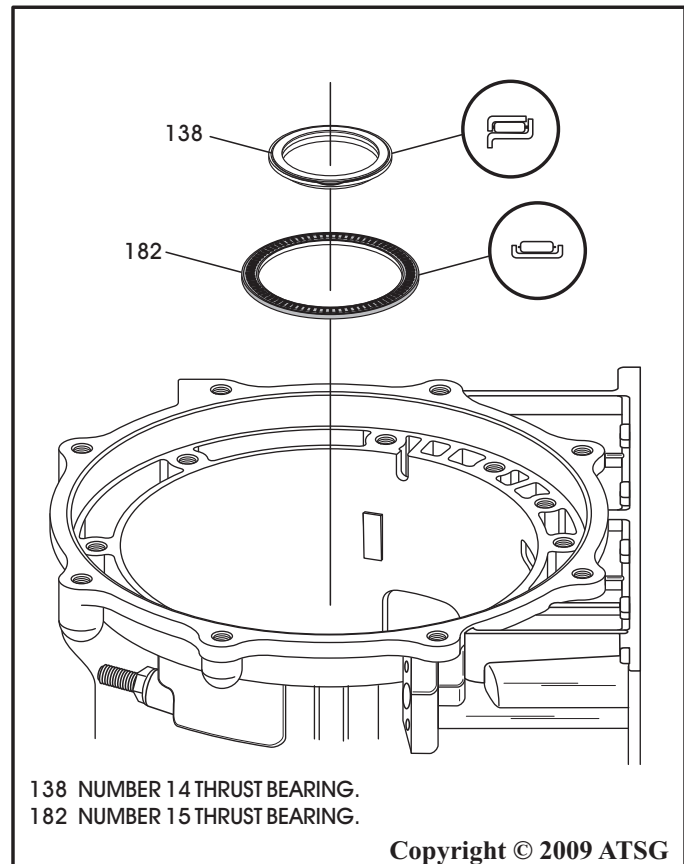

Figure 202
28. Install the number 15 thrust bearing with the needles facing up, as shown in Figure 202, and retain with a small amount of Trans-Jel®.
29. Install the number 14 thrust bearing, as shown in Figure 202, and retain with Trans-Jel.